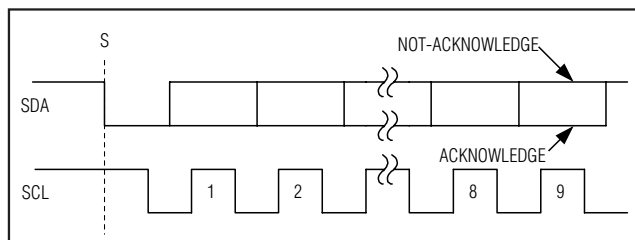

Figure 6. Acknowledge Bits
Data transfers are acknowledged with an acknowledge bit (A) or a not-acknowledge bit ( $\overline{A}$ ). Both the master and the MAX11644/MAX11645 (slave) generate acknowledge bits. To generate an acknowledge, the receiving device must pull SDA low before the rising edge of the acknowledge-related clock pulse (ninth pulse) and keep it low during the high period of the clock pulse (Figure 6). To generate a not-acknowledge, the receiver allows SDA to be pulled high before the rising edge of the acknowledge-related clock pulse and leaves SDA high during the high period of the clock pulse. Monitoring the acknowledge bits allows for detection of unsuccessful data transfers. An unsuccessful data transfer happens if a receiving device is busy or if a system fault has occurred. In the event of an unsuccessful data transfer, the bus master should reattempt communication at a later time.